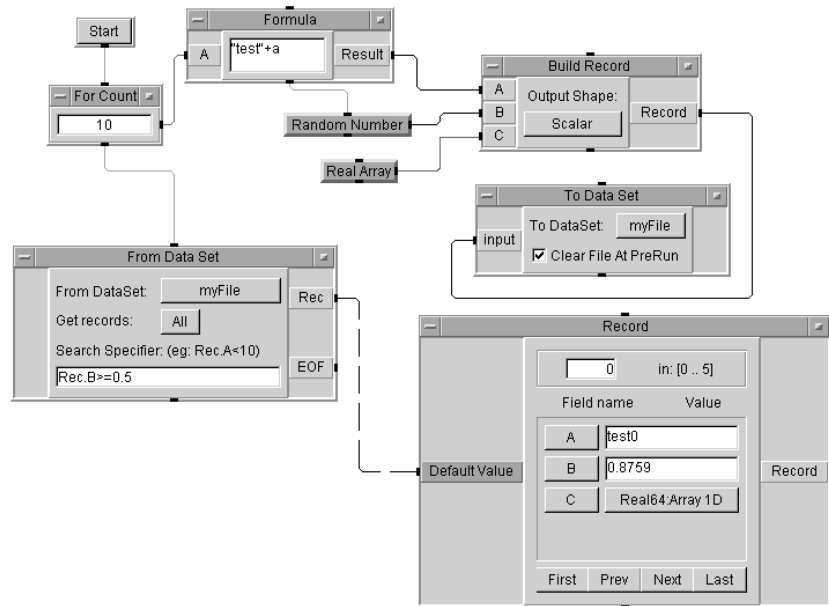

Figure 141 A Search Operation with DataSets
- 3 Add an EOF pin that will fire if no records match the criterion in the expression field. Place the cursor over the data output area of the From Data Set object, and press `Ctrl-A`. An EOF output pin is added to the From Data Set object, as shown in Figure 141.